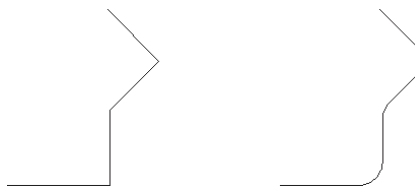

Figure 5.2
You can also round the corners of a polyline, as shown in Figure 5.2, by using the Radius option in conjunction with the Polyline option.
**Polyline** Applies the Fillet command to all the corners of a polyline composed of straight-line segments. (See Figure 5.2 earlier in this chapter.)